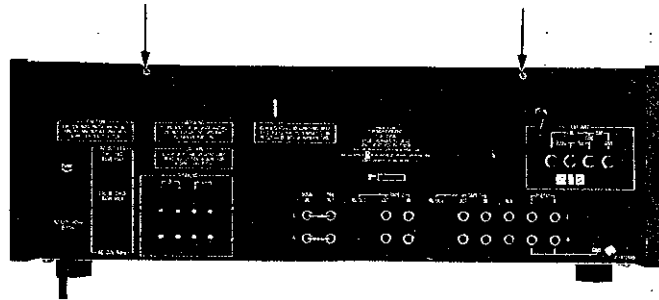

Figure B1
- a) Remove two screws from the upper Back Panel as shown in Figure B1.